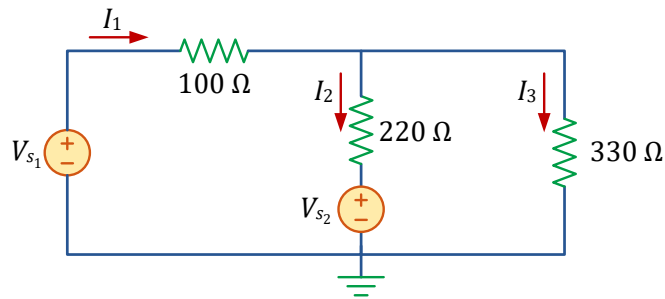

Figure 4.5: Resistive circuit to verify the superposition theorem.
- 8 Build the circuit of Figure 4.5 on your breadboard. Set V_{s_1} and V_{s_2} to be 10 V and 15 V, respectively. Then, measure the currents I_1 , I_2 , and I_3 with the given directions.